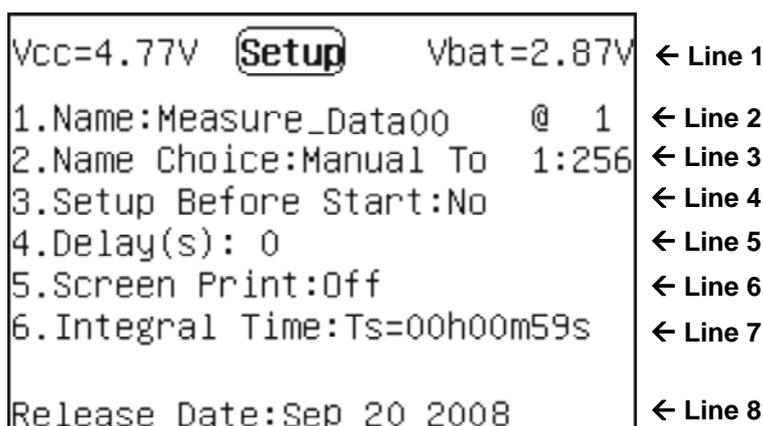

Fig. 6: Internal screen of programming menu
Select the “Setup” section in the main menu and confirm with “”. The instrument displays the screen shown in Fig. 6:
By selecting Line 3 inside the programming menu (see Fig. 6) and pressing the “” key, the instrument displays the following screen, which shows a list of the measure names created by the user:
1. Select Line 2 inside the programming menu (see Fig. 6) and press the “” key. The instrument displays the following screen: